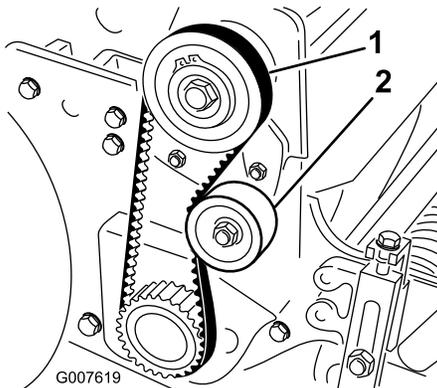

Figure 35
2. Check the tension by pressing the belt at mid span of the pulleys (Figure 35) with 18 to 22 N (4 to 5 lb) of force. The belt should deflect 6 mm (1/4 inch).
- A. Loosen the idler-pulley mounting nut and pivot the idler pulley clockwise against the backside of the belt until you attain the desired belt tension (Figure 35).